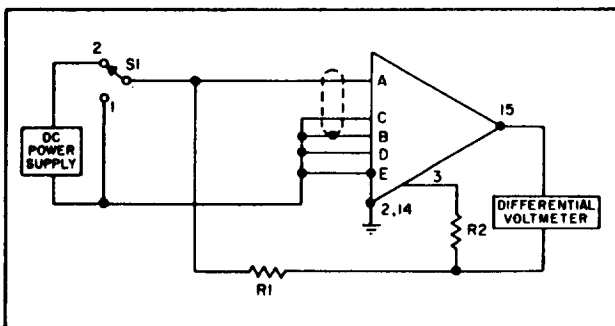

Figure 6-12. Gain Accuracy Test Circuit ( $G < 1$ )
- 1) Connect the amplifier as shown in Figure 6-12. Use  $R2 = 1000$  ohms  $\pm .01\%$ .  $R1$  is given by: